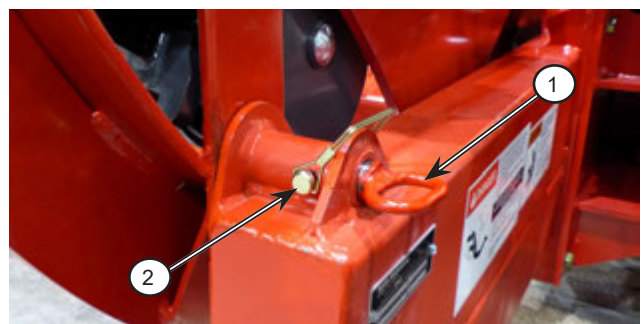

Figure 6.7: Install the apron lock
3. Install the apron locks on the left and right side of the apron; see *Figure 6.7*.
- a. Insert the 1" apron pins (1) into the hole on the apron.
- b. Re-install the  $\frac{5}{16}$ " locking pins (2) into the 2nd hole on the apron pin.